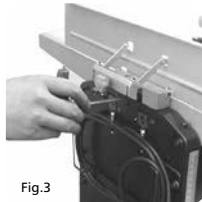

Fig.3
- Adjust the fence parallel with the surfacing tables and tighten the screw 'B', Fig. 3.